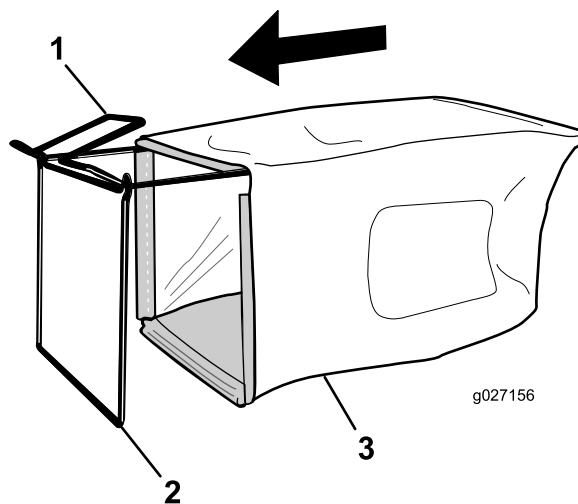

Figure 12
1. Slip the grass bag over the frame as shown in Figure 12.
Note: Do not slip the bag over the handle (Figure 12).